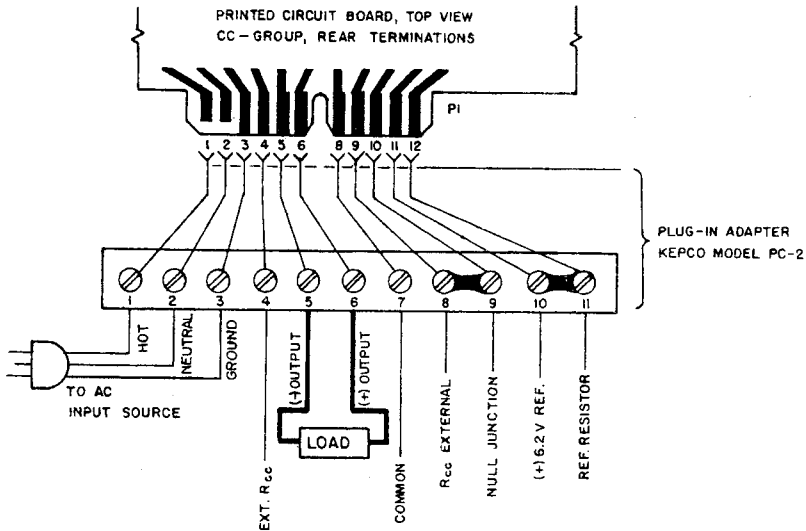

FIG. 2-2 REAR TERMINATIONS.
- b) REAR: Refer to FIG. 2-2.
- a) Refer to rear termination diagram (FIG. 2-2) and par. 2-4 for correct primary a-c connections. Connect supply to power line.